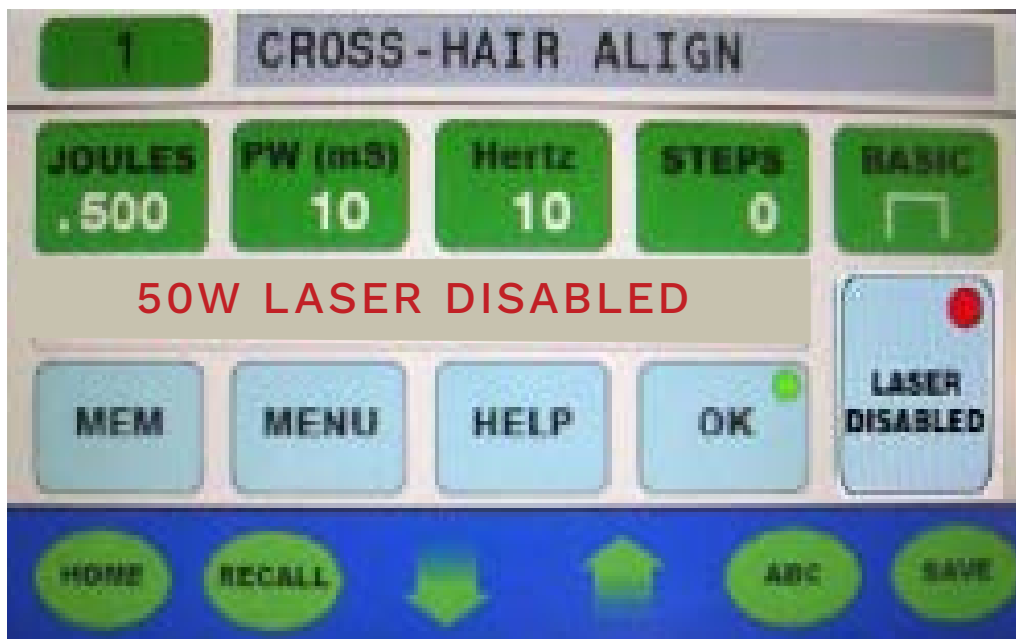

Figure 10
X. Appendix, Section C: Table Calibration: Micro Mode (figure 10 & data tables)